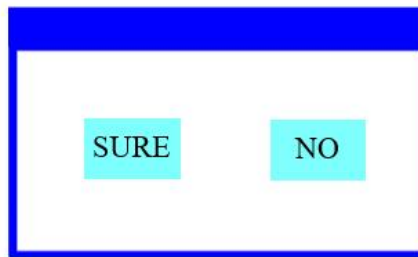

Figure 5 Determine the input window
- The determination of important parameters will be set through the confirmation window, as shown in Figure 5: